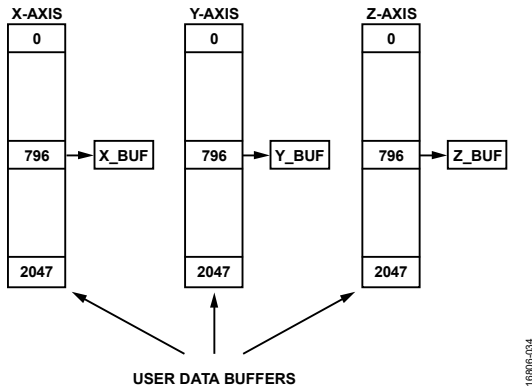

Figure 51. Register Activity, BUF\_PNTR = 0x031C (MFFT Mode or AFFT Mode)
Writing a number to the BUF\_PNTR register causes that sample number for each user data buffer (x, y, and z) to load to the X\_BUF register, Y\_BUF register, and Z\_BUF/RSS\_BUF register. For example, using the following code sequence on DIN writes 0x031C to the BUF\_PNTR register: 0x8A1C and 0x8B03. This write causes sample pointer to x (796), y (796) and z (796) from each user data buffer to load to X\_BUF, Y\_BUF, and Z\_BUF/RSS\_BUF (see Figure 51).